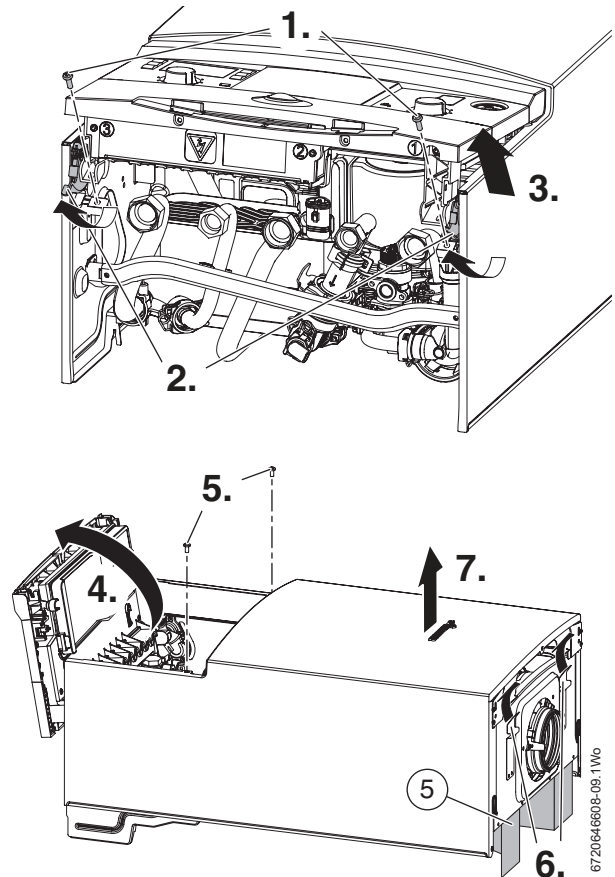

Fig. 23 Releasing the control panel
5. Refer to figure 23 and release the two screws securing the lower part of the case.